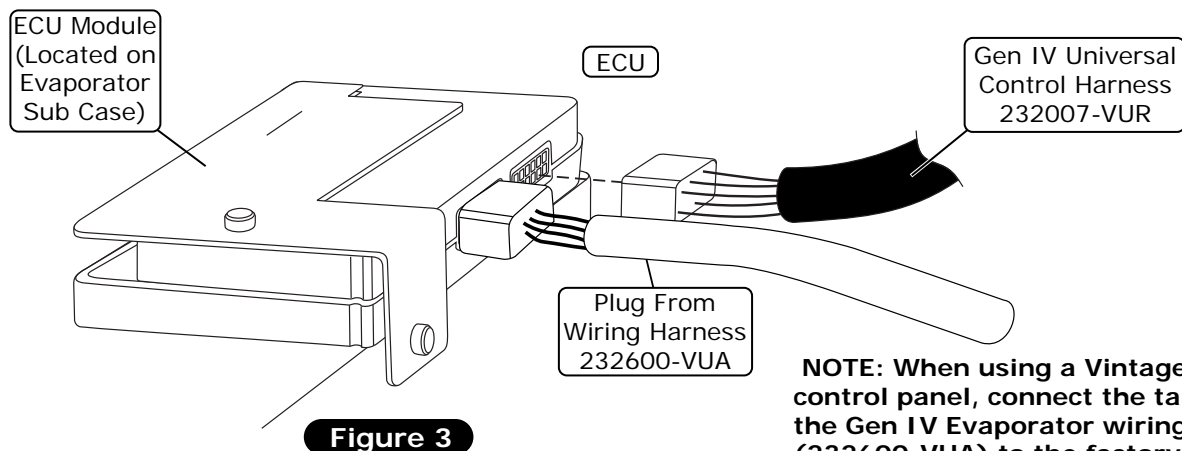

Figure 3
4. Plug the control harness into the ECU module on the sub case (See Figure 3, below).